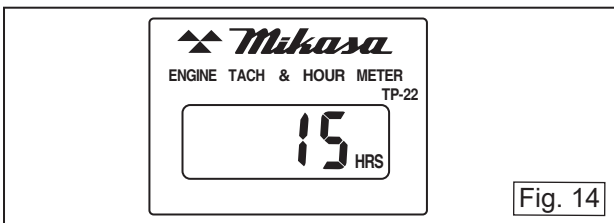

Fig. 14
- 4 When the engine is stopped, the hour tachometer is always displaying "Operation Time". (Fig.14)